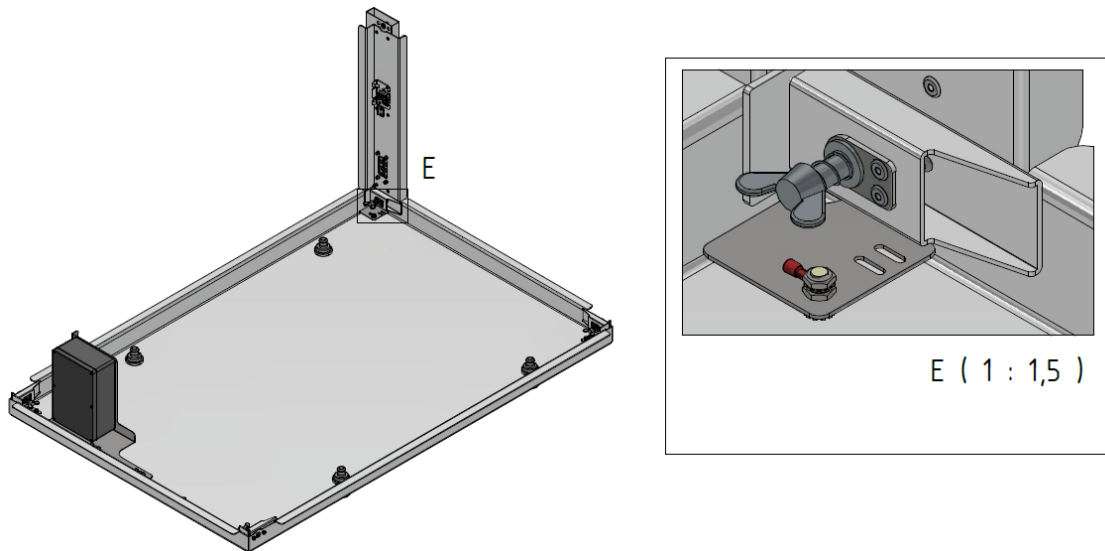

Figure 9 Screw connection *rear right pole*
- Pay attention to the guide pins marked in red in Figure 9 and ensure their correct position.